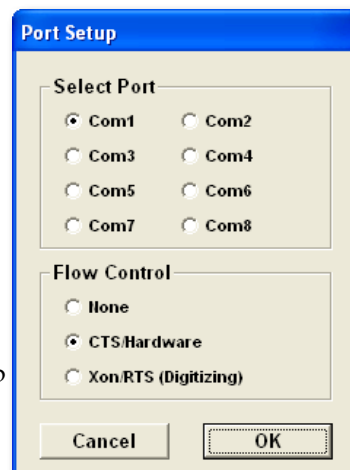

Figure 23. Select Port Window.
5. Click on **Port Setup** (Figure 23). Verify that the current port matches the port to which the cutter is physically connected to. See the cutter *User Guide* for help identifying the COM port. Click **OK**.